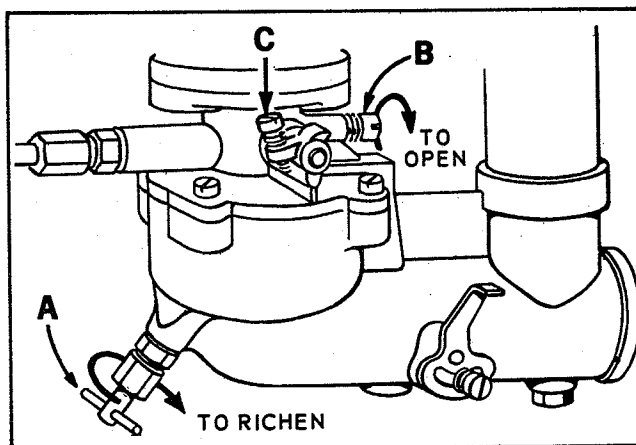

Figure 15. Carburetor adjustments.
1. See figure 15. Turn the needle valve (A) clockwise until it just closes. **CAUTION: VALVE MAY BE DAMAGED BY TURNING IT IN TOO FAR.**
2. Open the needle valve (A) one and one half turns counter-clockwise.
3. Turn the idle valve (B) clockwise until it just closes.
4. Open idle valve (B) one half to three quarter turns.
3. See figure 15. Turn needle valve (A) clockwise until engine misses, (Lean mixture), then turn it out (counter-clockwise) past the smooth operating point, until the engine runs unevenly (Rich mixture). Now turn needle valve (A) to the mid-point between the rich and lean mixture so the engine runs smoothly.
4. Move the engine speed control lever to the slow position, and set the idle speed adjusting screw (C) so a fast idle is obtained (1200 RPM). Hold the throttle in this idle position and turn the idle valve (B) clockwise (lean) and counter-clockwise (rich) until the engine idles smoothly.
5. Reset the idle speed so the engine idles at 1200 RPM. Push the engine speed control lever forward to the fast position, the engine should accelerate without hesitation or sputtering. If the engine does not accelerate properly, readjust needle valve (A) to a slightly richer mixture.